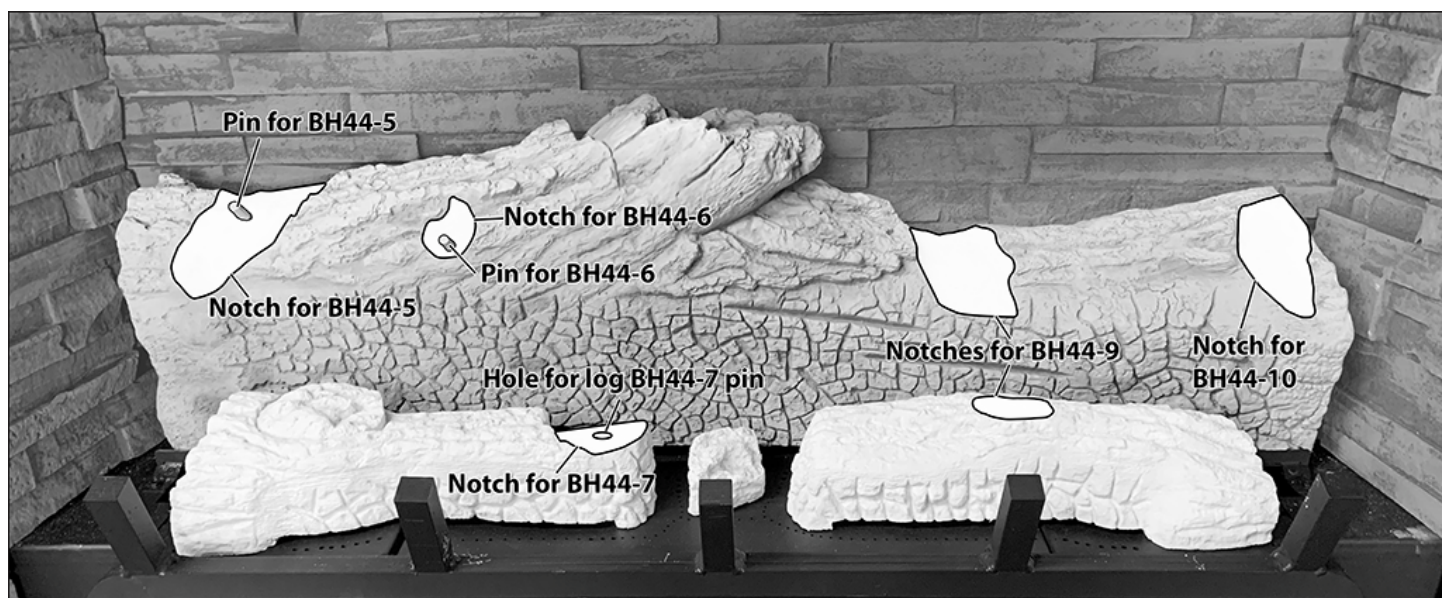
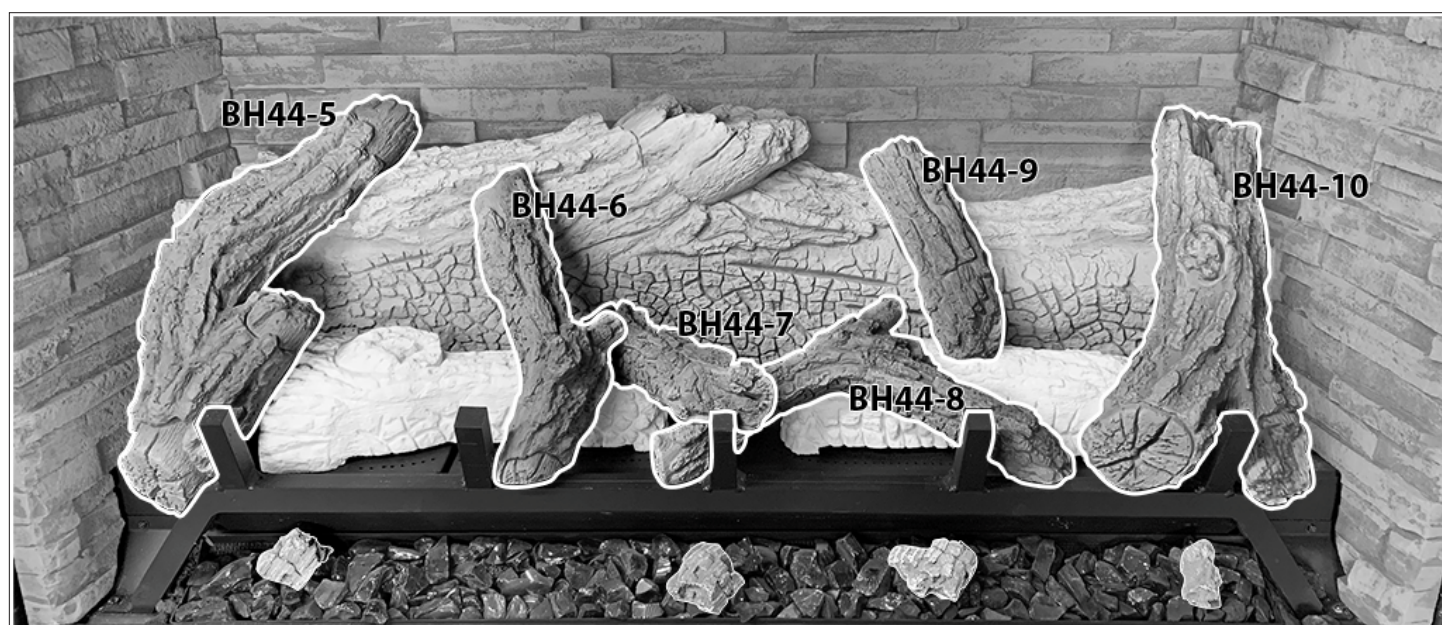

Figure 8.8, Base Log Notches
Figure 8.9, Completed Install
*Use Figures 8.8 and 8.9 together for the following instructions for proper log placement.*
3. Align the hole in the bottom of log BH44-5 with the pin on the left hand side of log BH44-1 and set into position, as shown in Figure 8.9.
4. Align the hole in the bottom of log BH44-6 with the pin in BH44-1 (Figure 8.8). Place as shown in Figure 8.9.
5. Place log BH44-8 on log BH44-4, as shown in Figure 8.9.
6. Align the pin in the bottom of log BH44-7 with the hole in the notch in log BH44-2 (Figure 8.8), and set on to log BH44-8, as shown in Figure 8.9.
7. Align log BH44-9 with the notches on log BH44-1 (Figure 8.8) and log BH44-4, as shown in Figure 8.9.
8. Align log BH44-10 with the notch on log BH44-1 (Figure 8.8), and place on log BH44-4, as shown in Figure 8.9.
10. Place the (4) charred pieces on top of the ember bed. We show one way to place the pieces, and you may place the pieces at your discretion.